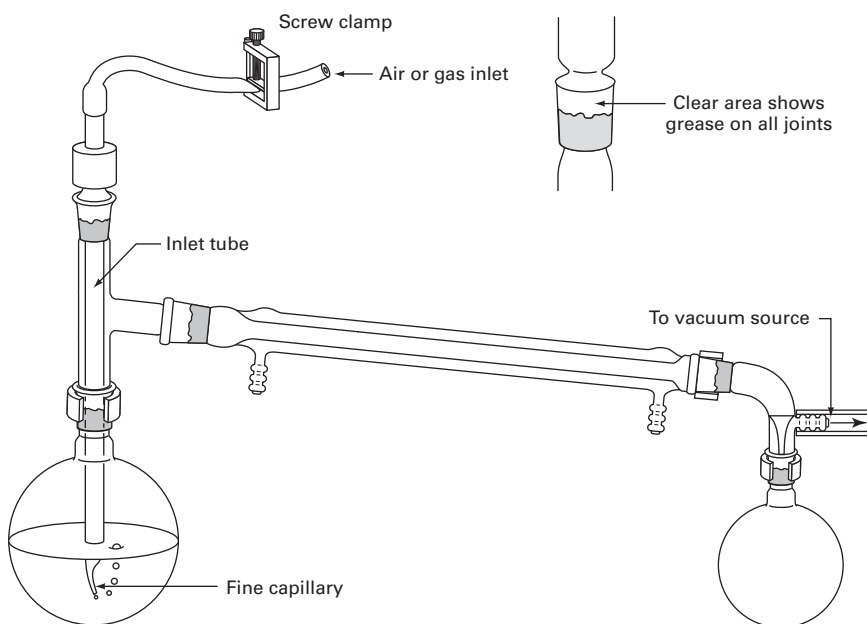

FIGURE 19.3 A vacuum distillation setup.
2. Another liquid that boils at least 25°C higher than the first liquid. The liquids must dissolve in each other. This is like the **simple distillation** with the changes shown (Fig. 19.3).
2. The thermometer can be replaced by a **gas inlet tube**. It has a long, fine capillary at one end (Fig. 19.3). This helps to stop the *extremely bad bumping* that goes along with vacuum distillations. The fine stream of bubbles through the liquid produces the same results as a boiling stone. Boiling stones are useless, since all the adsorbed air is whisked away by the vacuum and the nucleating cavities plug up with liquid. The fine capillary does not let in a lot of air, so we are doing a vacuum distillation anyway. Would you be happier if I called it a **reduced-pressure** distillation? An inert gas (nitrogen?) may be let in if the compounds decompose in air.